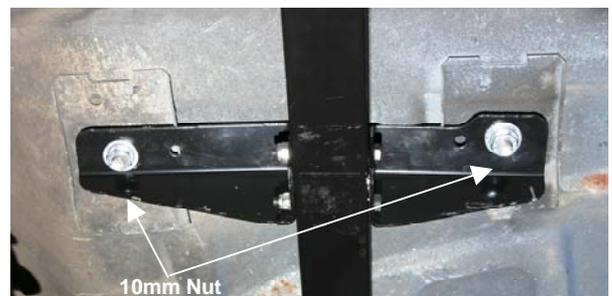

Fig 4
1. Slide the outer bracket onto the seat-mounting bolt that protrudes through the floor. Hold the bracket in place with one of the supplied 10mm nuts. See Fig 4